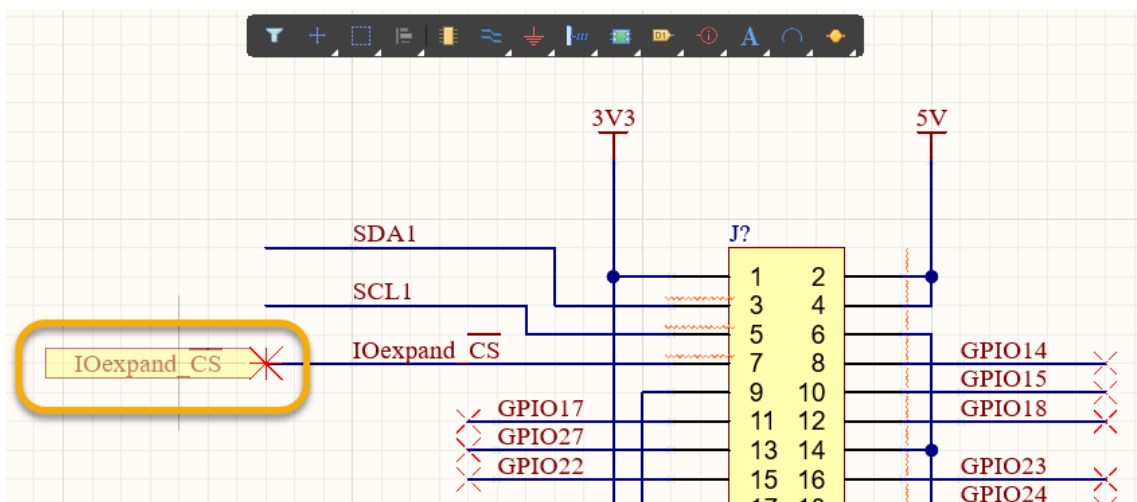

Figure 25. Signal Port `IOexpand_CS`
25. Place the `IOexpand_CS` port near the wire for net label **GPIO4** on **Pin 7** of the header as shown in *Figure 25*